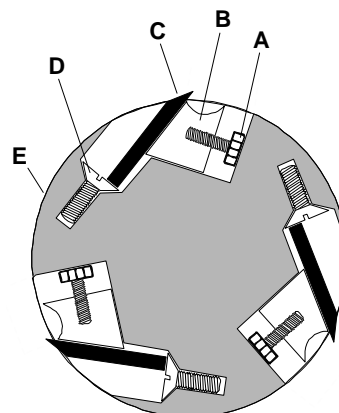

Figure 12
4. Rotate the *cutterhead* (E) and determine the 12 o'clock position of knife number one. The 12 o'clock position is the highest point a blade will reach in the cutting arc (C, Fig. 12).